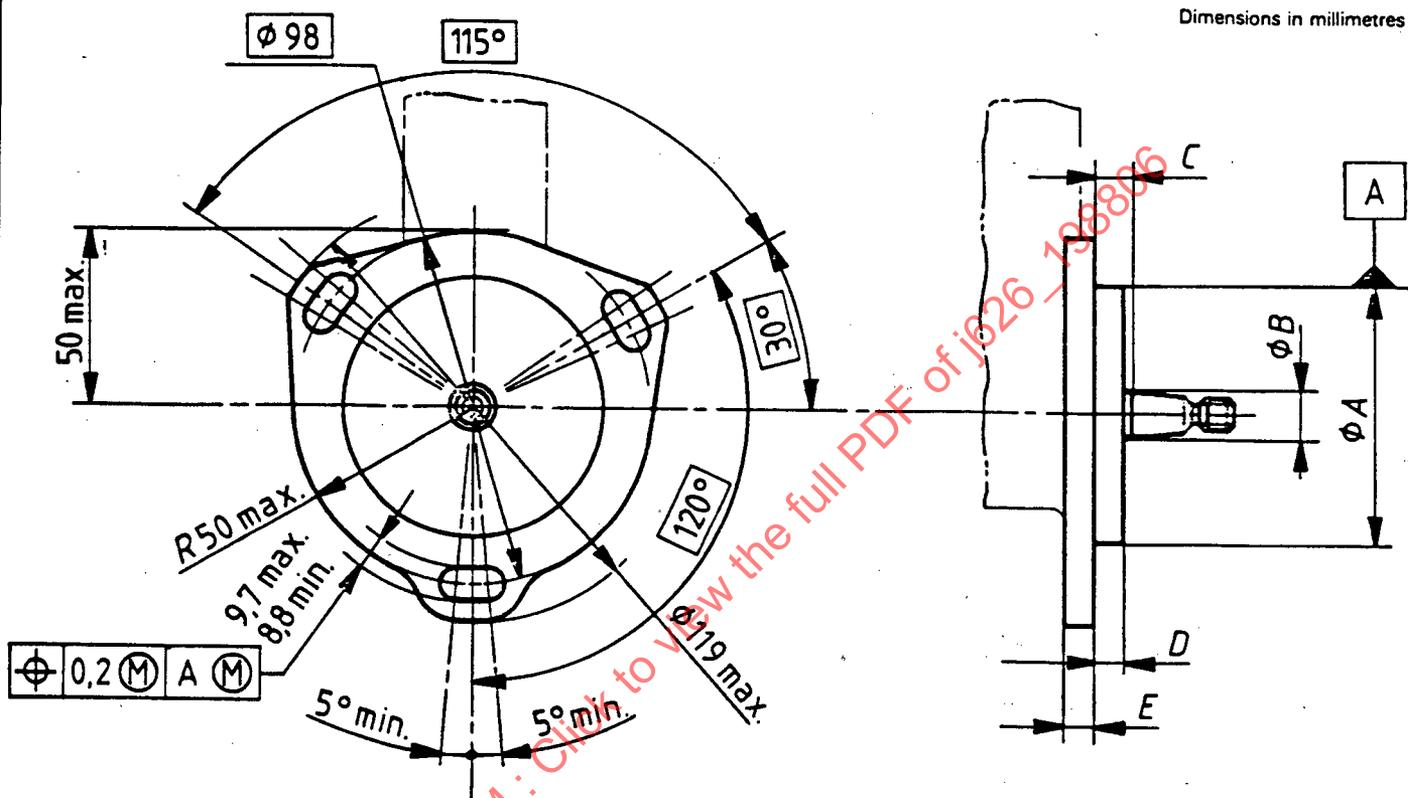

FIGURE 5 - Fuel Injection Pumps - Type 5 End-Mounting Flange
3.2.5 Type 5 Flange: See Fig. 5 and Table 5: